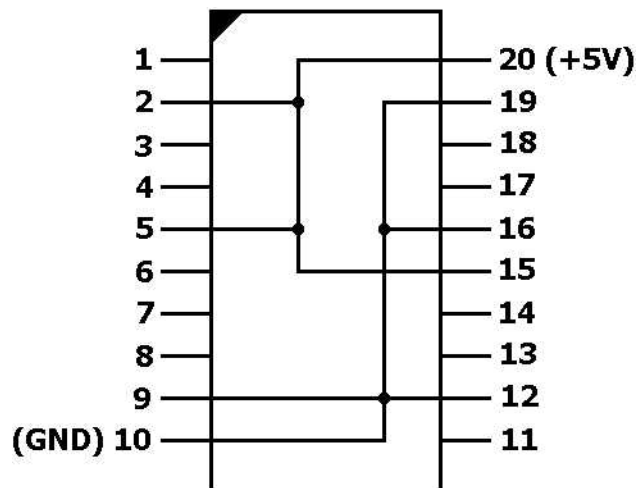

Fig. E-1 Header U27
The modification involves replacing IC U27 and U28 with pre-programmed headers as shown in Figures E-1 and E-2. Firmware EPROM, U23 will be replaced by an EPROM that contains programs such as NET/ROM™ and THENET™, etc.
2. Construct Header U27 by connecting pins 9, 12, 16 and 19 to ground at pin 10. Connect pins 2, 5 and 15 to +5 V at pin 20. See Figure E-1 below.